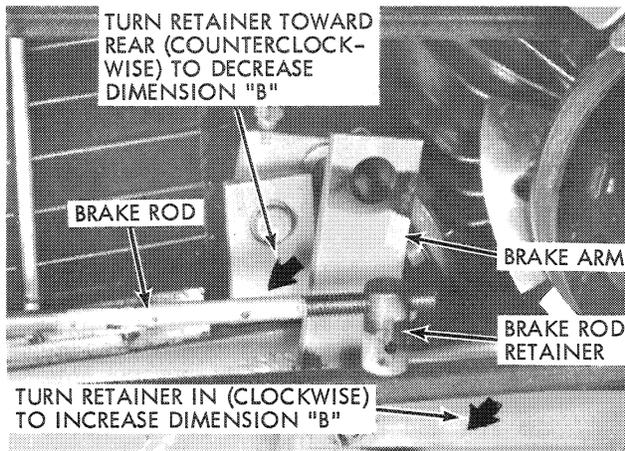

Figure 5
3. Pull the brake rod retainer from the brake arm as shown in figure 5.